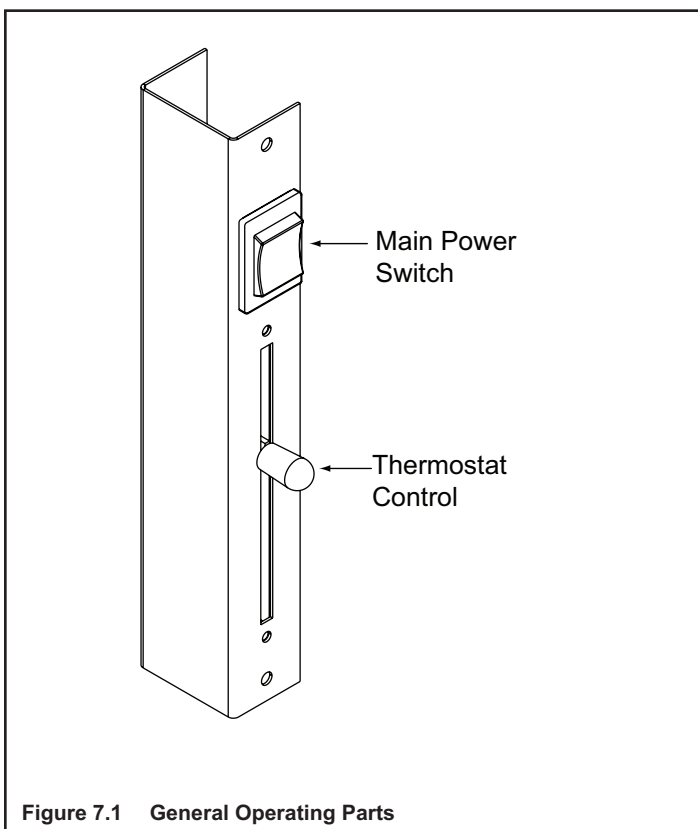

Figure 7.1 General Operating Parts
The main power switch is a three-position switch. See Figure 7.1.
- The thermostat allows you to adjust the desired room temperature. See Figure 7.1.